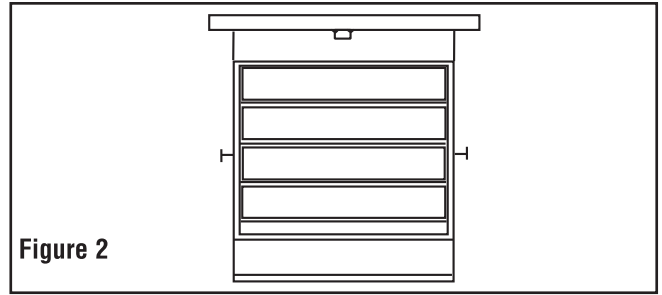

Figure 2
**5kw & 7.5 kw:** In addition to the 1/2"-13 NC threaded mounting hole, the 5 kw & 7.5 kw heaters are supplied with a hanger bracket. The bracket may now be mounted for horizontal air discharge in the double keyhole slot which will space the top of the heater 1-7/8 inch (47 cm) from the ceiling (Figure 2), or it can be attached in the single keyhole slot for horizontal or vertical mounting.